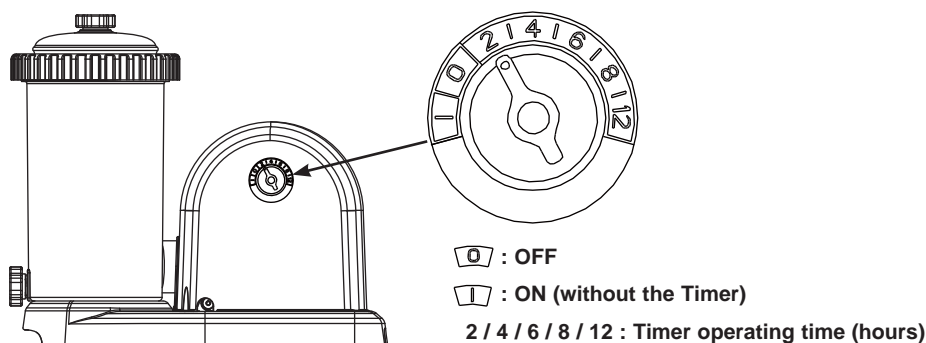

FIG 10
4. With water flowing into filter pump, the water pressure will allow the air trapped inside to escape from the air release valve (2). When all the air has escaped water will flow out of the valve (2). When this occurs gently finger tighten the valve (2) in a clockwise direction.
- A. Plug the power cord into the electrical outlet and set the timer dial to the desired operating hours (see Fig. 10). See the "Operating Time Table" for the required operating hours related to each pool size.